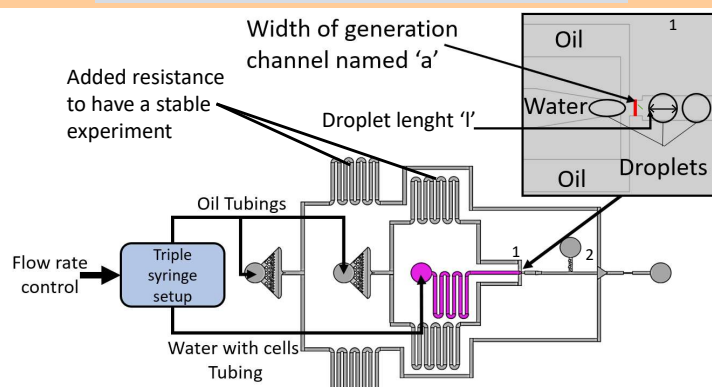

Figure 2: Experimental setup schematic
In Fig 2, there are two inlets for the oil, the second one is for the droplet generation while the second one has the purpose of spacing the droplets as well as controlling the speed of these droplets by injecting an oil flow in point 2 (Fig 2).
- The control of the oil flow rate in the first inlet (Figure 2) is the solution to control the speed of the droplet since it doesn't have an impact on the size of the droplets. The speed is proportional to the total flow rate.